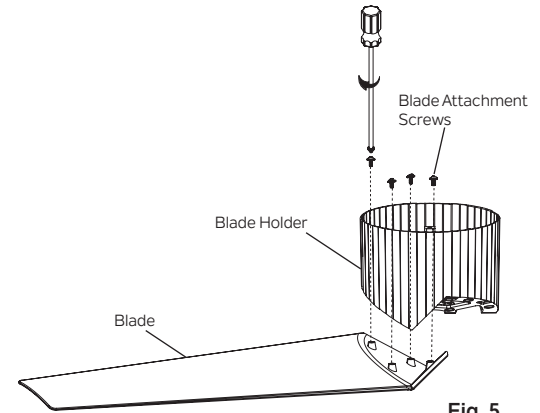

Fig. 5
Step 1. Align the four holes in a blade with four matching holes in the blade holder. Thread blade attachment screws into the aligned holes, and tighten screws to secure the blade to the blade holder. Repeat for remaining blades. (Fig. 5)